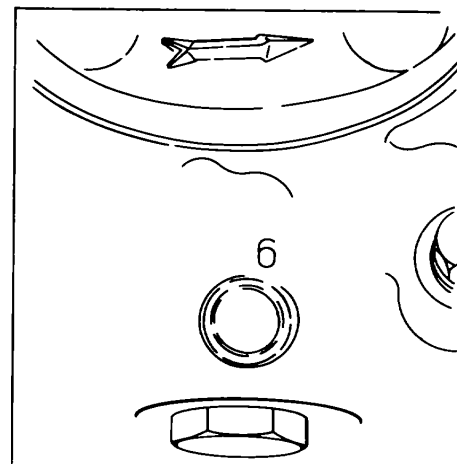

Figure 193.
a. In the area of the trade mark, cast in the cover, will be stamped a "6" or a "4" denoting a Model 60 or a Model 48 respectively. See Fig 193.